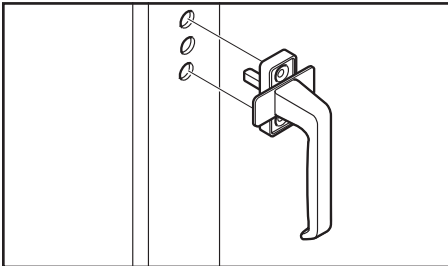

Figure 2-4. Euro-Handle in the Lock position
- 1.3. Lock position: install the Euro-Handle on the sash in the vertical Lock position, with the handle pointing down. Insert the shaft into the center hole. See fig. 2-4.